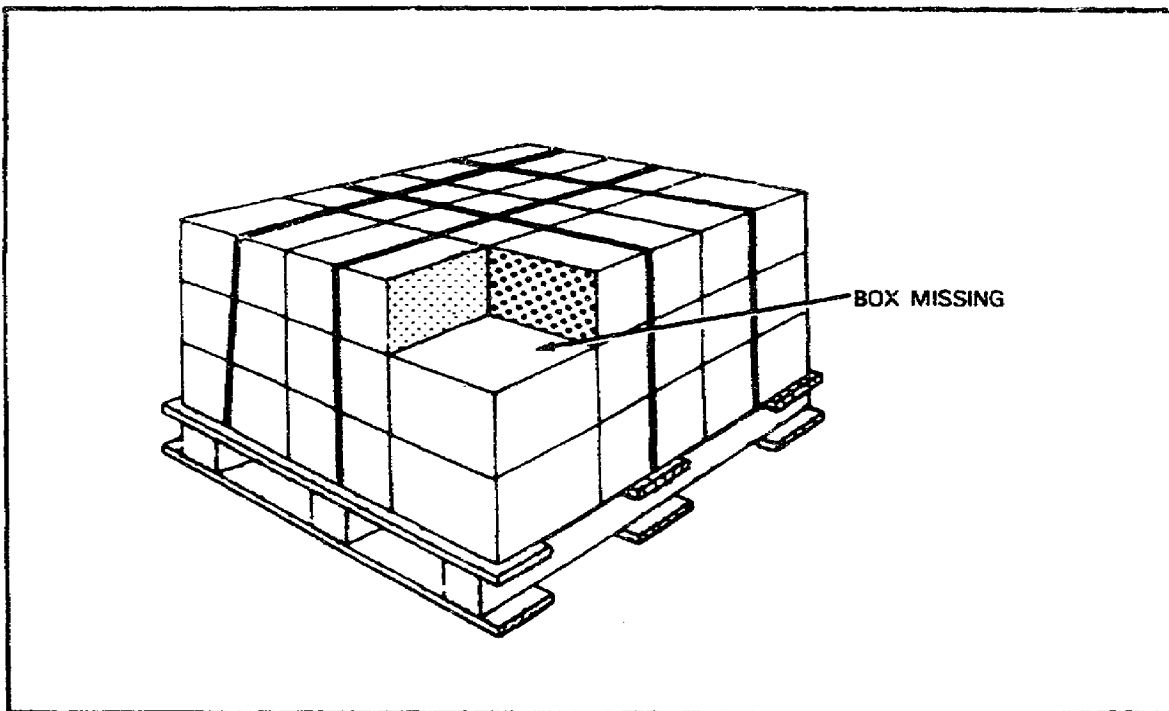

Figure 4-4. A Light Pallet of Ammunition.
- Count the number of light pallets. A light pallet is one from which one or more boxes or projectiles are missing (Figure 4-4). Look for the empty filler boxes that are sometimes used to complete a pallet load. They will be marked "empty." The procedure for counting a light pallet is the same as that for a full pallet, except that the number of boxes missing is subtracted to get the actual total. One box is missing from the pallet in Figure 4-4, therefore: